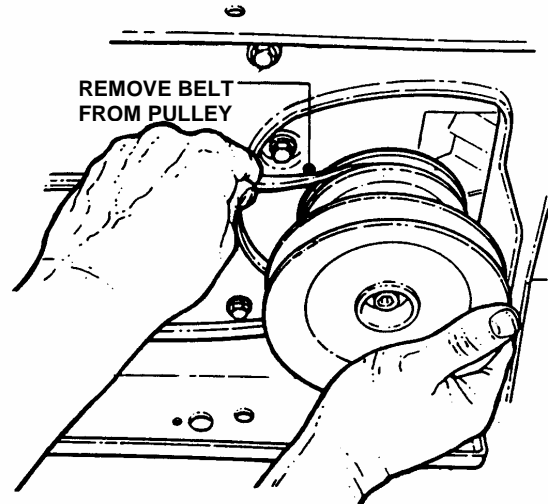

FIGURE 4.28
5. Remove traction drive belt from engine pulley top groove. See Figure 4.28.